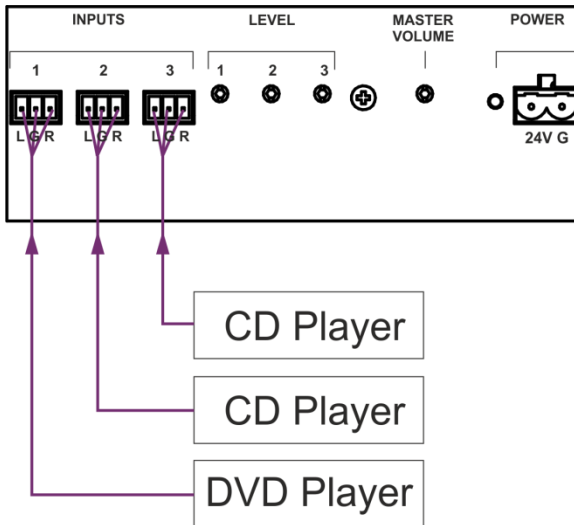

Figure 5: Connecting the Inputs
4. Connect the input wires to the speaker terminals (see Figure 5) from the adjacent ceiling tile opening as follows:
- Connect the inputs as illustrated in the example in Figure 5 (for example, a DVD player and two CD players). Connect the audio output terminals to the L, G and R INPUT terminal block connectors.